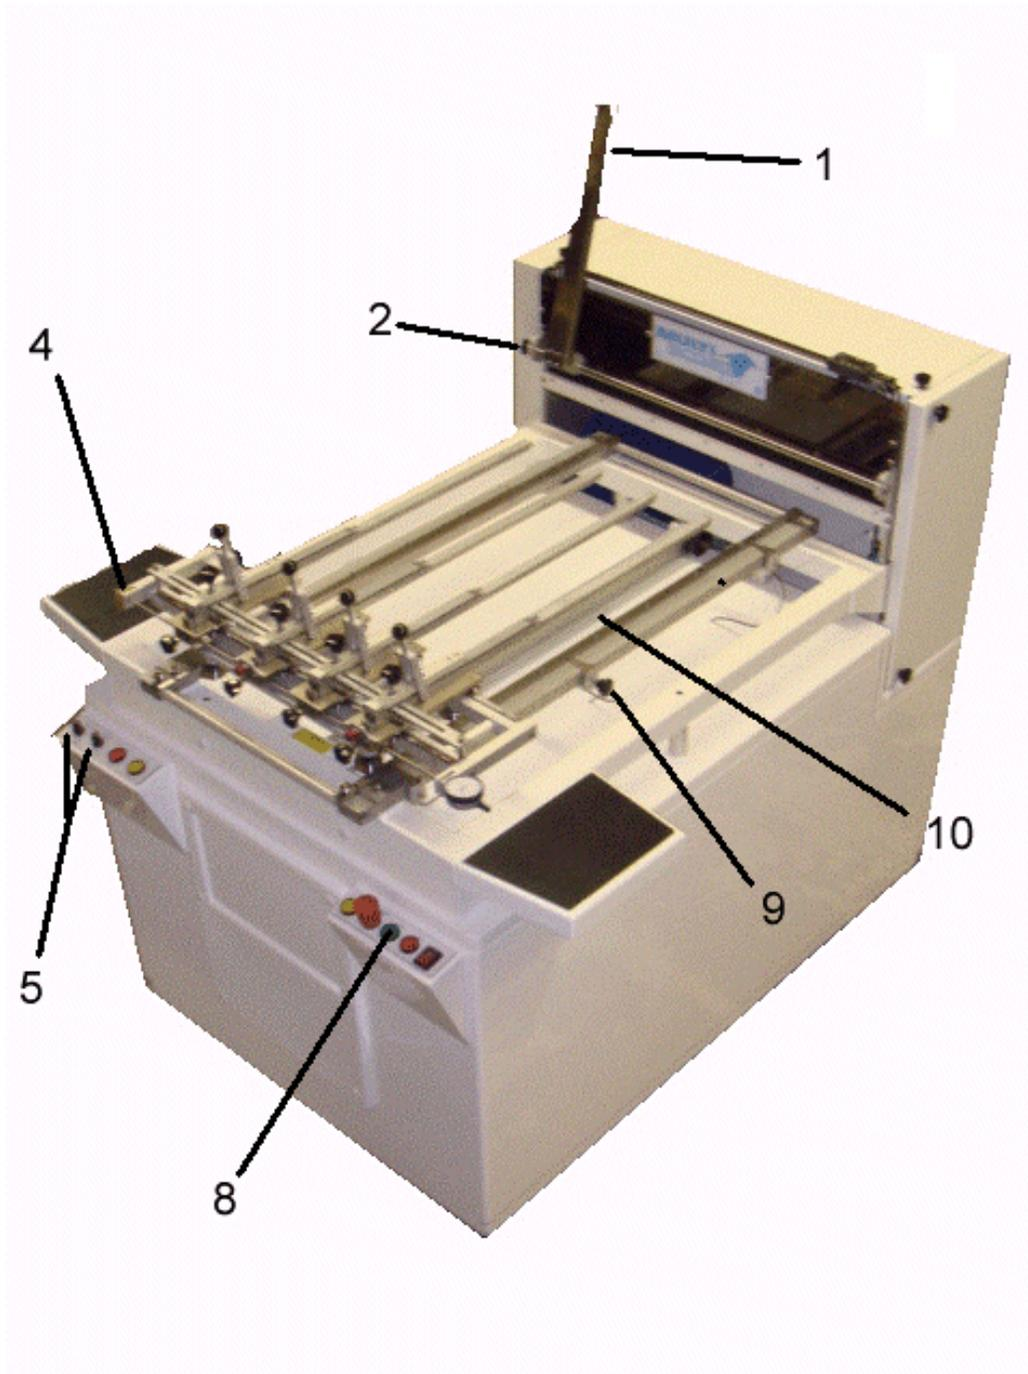
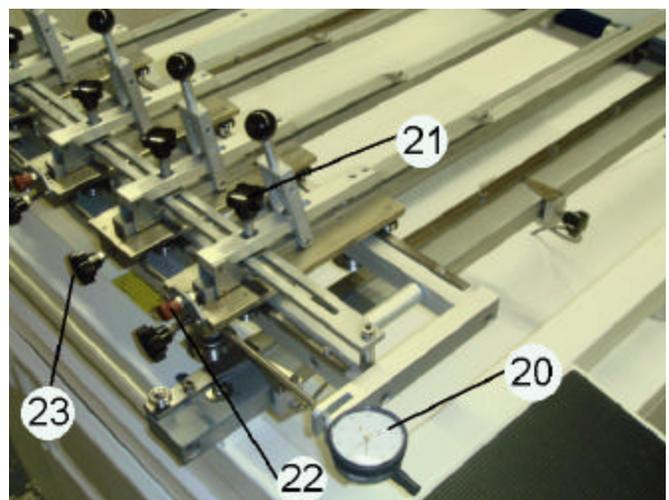

Figure 1
Figure 4
- * Release the carriage arm clamps, then position the PCB on the carriage arms locating on the tooling pins, (figure 4, pointer 21).
- * MULTI-SCORE ONLY: Release clutch (Figure 1, pointer 10) to allow the carriage to be manually moved.
- * Lower the straight edge (Figure 1, pointer 1) to the horizontal setting position by releasing locking knob (Figure 1, pointer 2). Align the PCB track pattern to the straight edge by manipulating adjusters , pointer 22) and then return the straight edge into the vertical position and lock up. Lock carriage arm clamps (Figure 4, pointer 21).
- * Return carriage. Engage clutch (Figure 1, pointer 10), ensuring the carriage is in the full extent of its travel. Switch power ON to the machine and start the cutter motor by depressing the START button (Figure 1, pointer 8). Ensure EMERGENCY STOP switch is not depressed and the cutters are rotating in the correct direction. (See INSTALLATION PROCEDURE on page 8).
- * Press both CYCLE buttons simultaneously the carriage will index forward into the cut position and then return to the start position. Adjust non-contact switches (Figure 1, pointer 9) until the leading edge of the PCB panel travels at fast speed until it is in line with the acrylic fascia of the cutter housing mechanism. At this stage, it must then slow to the pre-set cutting speed. Both speeds are adjustable using the potentiometers, IN - SPEED - OUT (Figure 1, pointer 5). Trial and error will determine the best cutting and travel speeds. Cycle the machine several times until you are confident you have achieved the optimum speeds and the best cut results.
- * Inspect the PCB to ensure score lines are in the correct position. If they are found to be to one side of the desired position, tighten micro-manipulator clamps (Figure 4, pointer 23) and release clamping screws (Figure 4, pointer 21) and index the carriage mechanism across, using adjuster (Figure 1, pointer 4). Read the amount of movement off the gauge (Figure 4, pointer 20) and re-tighten clamping screw. Run a sample PCB panel through the machine and make further inspections.